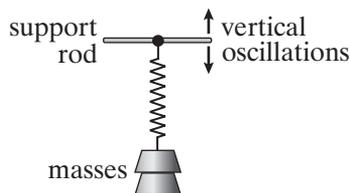

Figure 8
- (b) With both masses still in place, the spring is now suspended from a horizontal support rod that can be made to oscillate vertically, as shown in **Figure 8**, with amplitude 30 mm at several different frequencies.